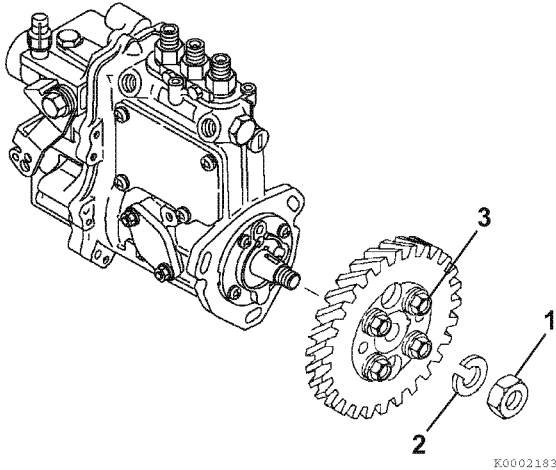

Figure 6-43
- Do not remove the fuel injection pump drive gear unless absolutely necessary due to damage to the gear or pump. Do not loosen or remove the four bolts (Figure 6-43, (3)) retaining pump drive gear to the hub. Only remove the nut (Figure 6-43, (1)) and washer (Figure 6-43, (2)), leaving the hub attached to the gear. Remove the pump drive gear and hub as an assembly using a gear puller.